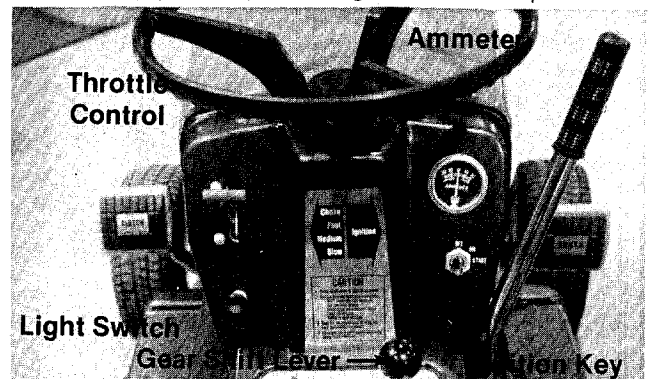

FIGURE 7. CONTROLS
a. Throttle Control The throttle control is used to regulate the engine speed and choke the engine. The engine should be operated from $\frac{3}{4}$ to full throttle when operating the cutting deck or snow thrower (optional). See figure 7.
b. Gear Shift Lever. The gear shift lever is used to shift into one of three FORWARD GEARS, NEUTRAL or REVERSE. See figures 7 and 8.
g. Ammeter. The ammeter registers the rate of battery charge or discharge. The ammeter should register on the plus side (+) when the engine is running in the fast position until the battery is completely charged. With a fully charged battery or with the engine idling the ammeter will not show a charge. See figure 7.
h. Light Switch. Pull the light switch out to turn on the lights. The lights will only operate when the engine is running. See figure 7.
Electric Start. See figure 7. Turn the key to the START position to start the engine. When the engine is running, let the key return to the ON position. To stop the engine, turn the key to the left to the OFF position and remove it to prevent accidental starting.
Step 4. Set the throttle control in the CHOKE position. See figure 7.